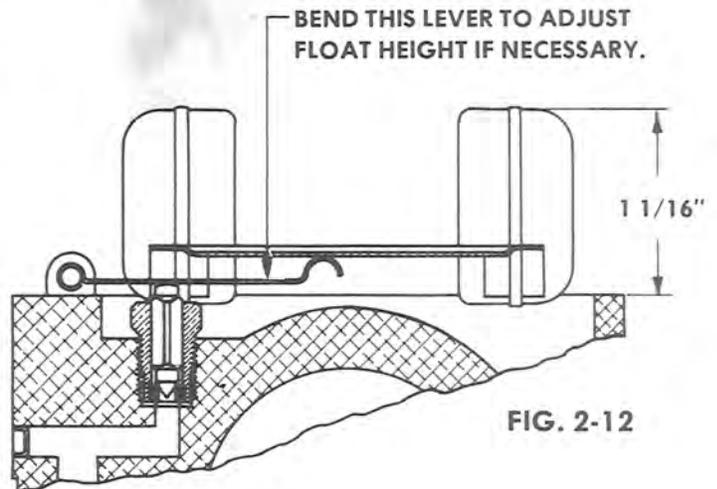

FIG. 2-12
3. **FLOAT** - With fuel bowl removed, and float assembly in place, turn the body casting upside-down so that float assembly is at top. Sight along uppermost surface of float and adjust by bending **metering** lever so that top surface of float is  $1 \frac{1}{16}$ " above body casting surface. (See FIG. 2-12) Adjustment may also be accomplished using the special tool available for this purpose. (See FIG. 2-13)